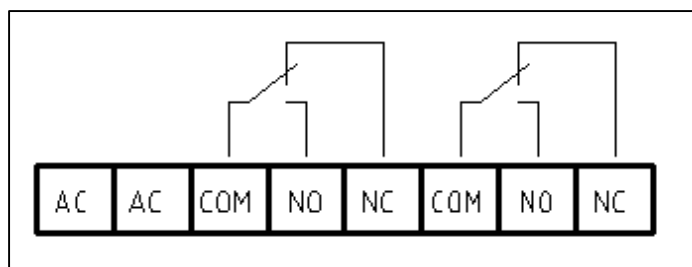

Figure 7. Terminal
**Important :** The state of the point of contact in Figure 7 is in the state of "Power ON , NoFlow".